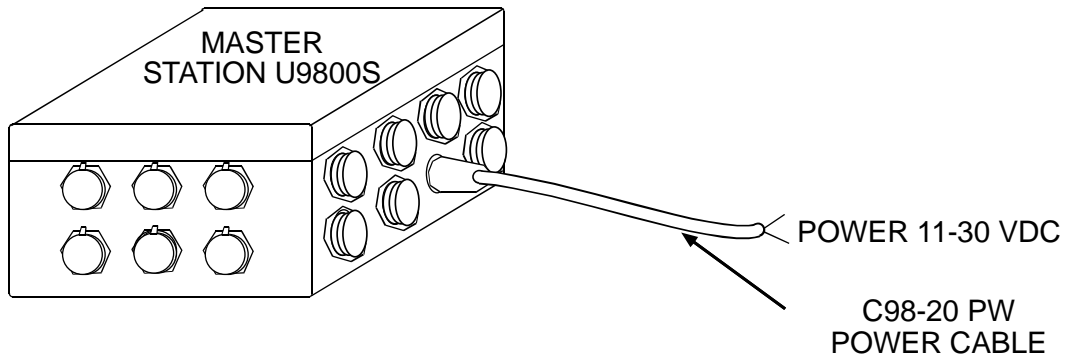

Figure 3: Master Station Power Cable Connection
- q Connect the cable to the jack on the Master Station labeled “Power Cable”, see **Figures 3&4**. To connect the cable to the Master Station, align keyways and push. Then firmly turn collar clockwise until it locks into place. Pull back gently on the cable to ensure connector is properly locked.